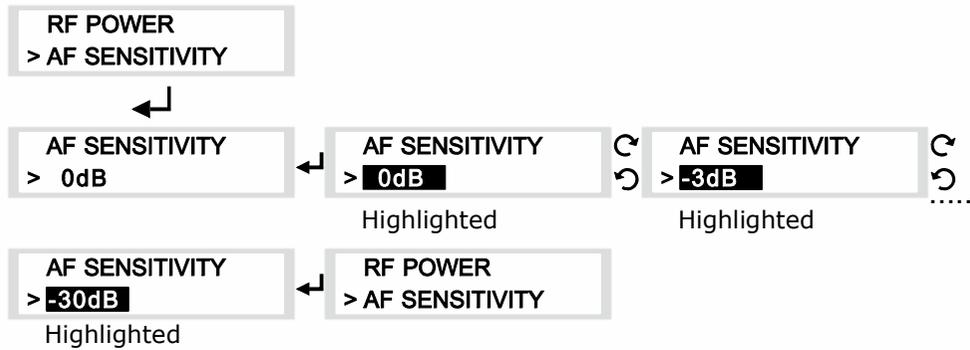

Fig. 12
(D) AF SENSITIVITY: Audio sensitivity settings, Fig. 12